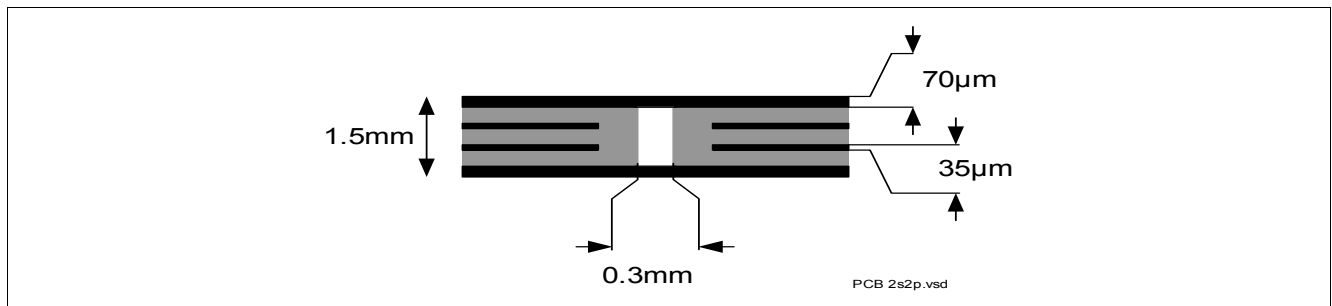
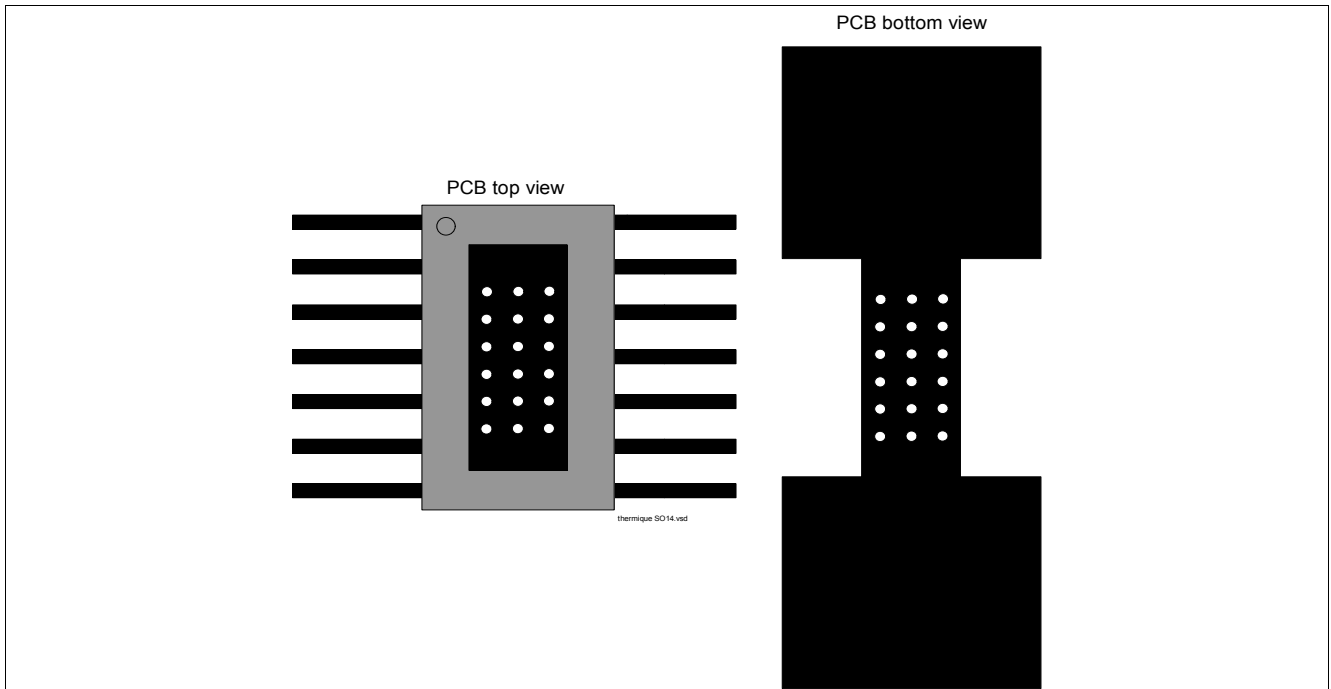

Figure 4 2s2p PCB Cross Section
Figure 5 PC Board Top and Bottom View for Thermal Simulation with 600 mm2 Cooling Area
- 2) Specified  $R_{thja}$  value is according to JEDEC JESD51-2,-5,-7 at natural convection on FR4 2s2p board; The product (chip + package) was simulated on a 76.4 x 114.3 x 1.5 mm board with 2 inner copper layers (2 x 70µm Cu, 2 x 35 µm Cu). Where applicable, a thermal via array under the exposed pad contacts the first inner copper layer. Please refer to Figure 4 and Figure 5.